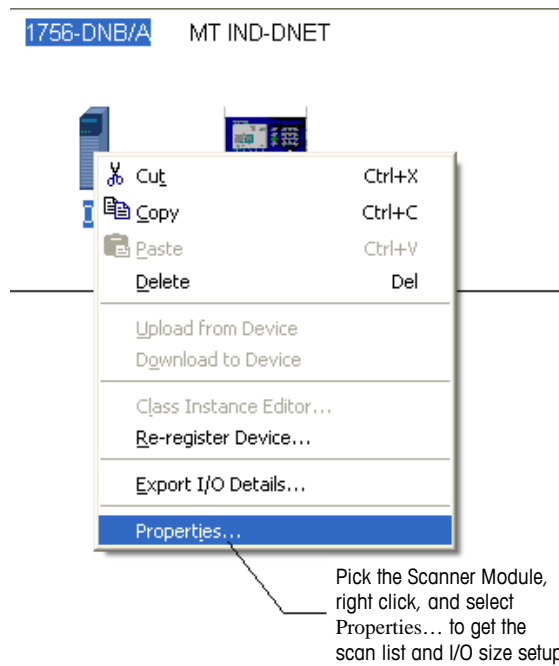

Figure 5-21: Accessing Scanner Properties
- Once the scanner has browsed the entire network, add IND Terminal to the 1756-DNB/A's scanlist by right-clicking on the scanner icon in the Graph window (note the tab at the bottom of Figure 5-21), and choosing Properties...